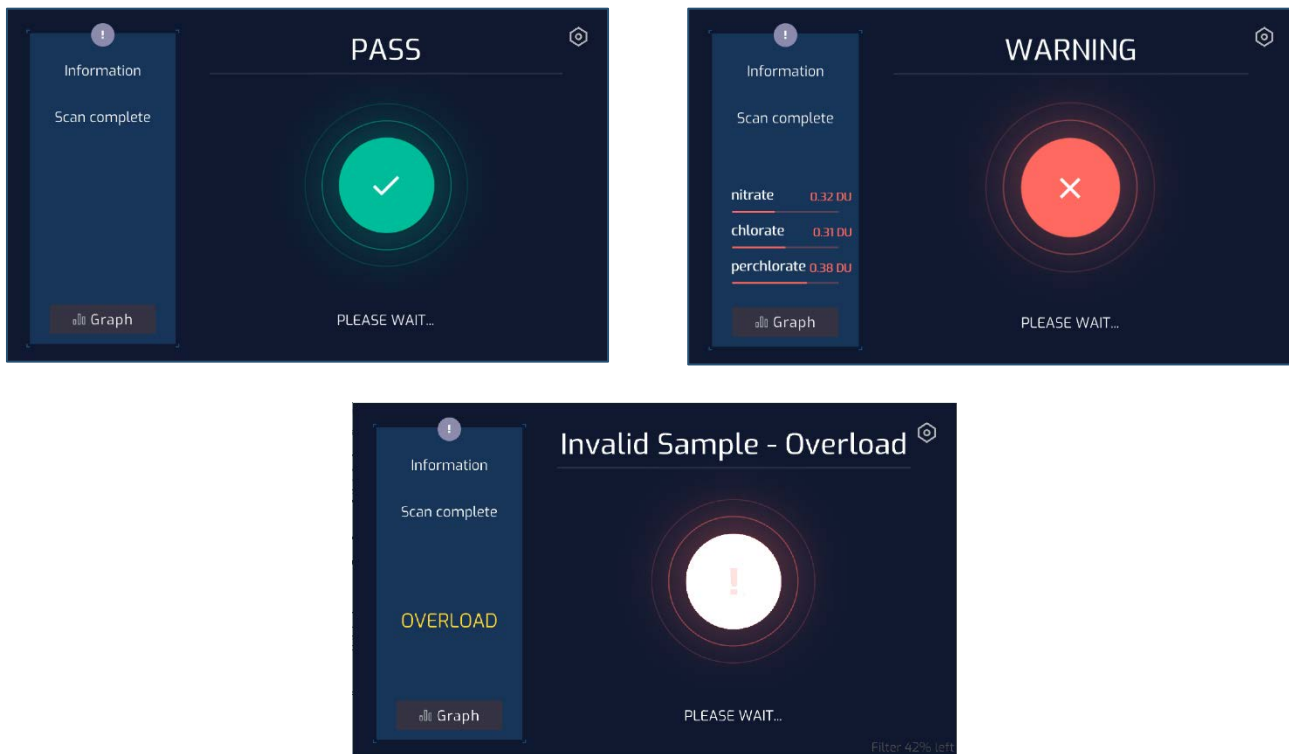

Figure 19: PASS, WARNING and OVERLOAD Screens (Wait)
- After the sample has been tested a results screen will be displayed indicating a Pass (**green** indicator), a Warning (**red** indicator), or an Invalid Sample - Overload (**white** indicator) as illustrated in Figure 19. The Swab should then be removed and disposed.